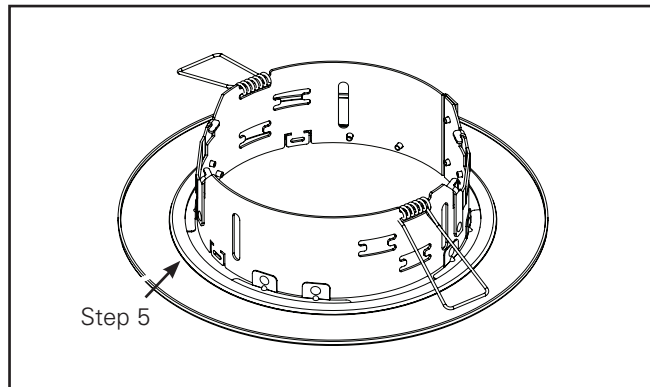

Figure 30
5. Confirm the ring sits flat on the four flanges at the rim (Figure 30).